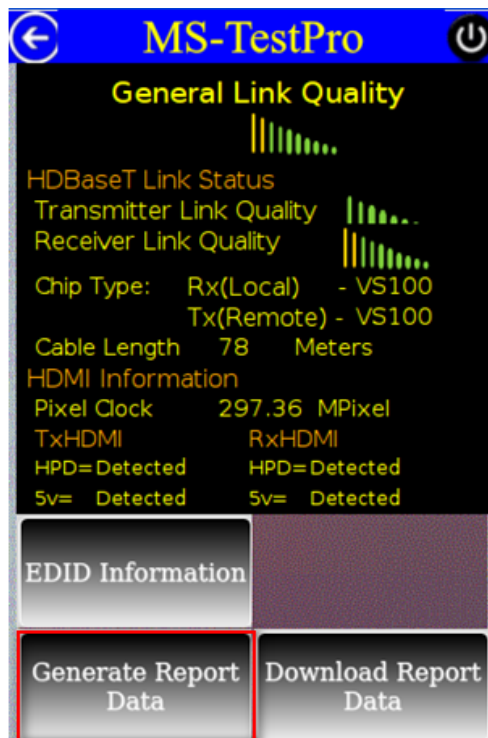

Figure 15: Generate Report Data
- 2. Select **Basic Tests >> Generate Report Data**, as shown below in Figure 15: